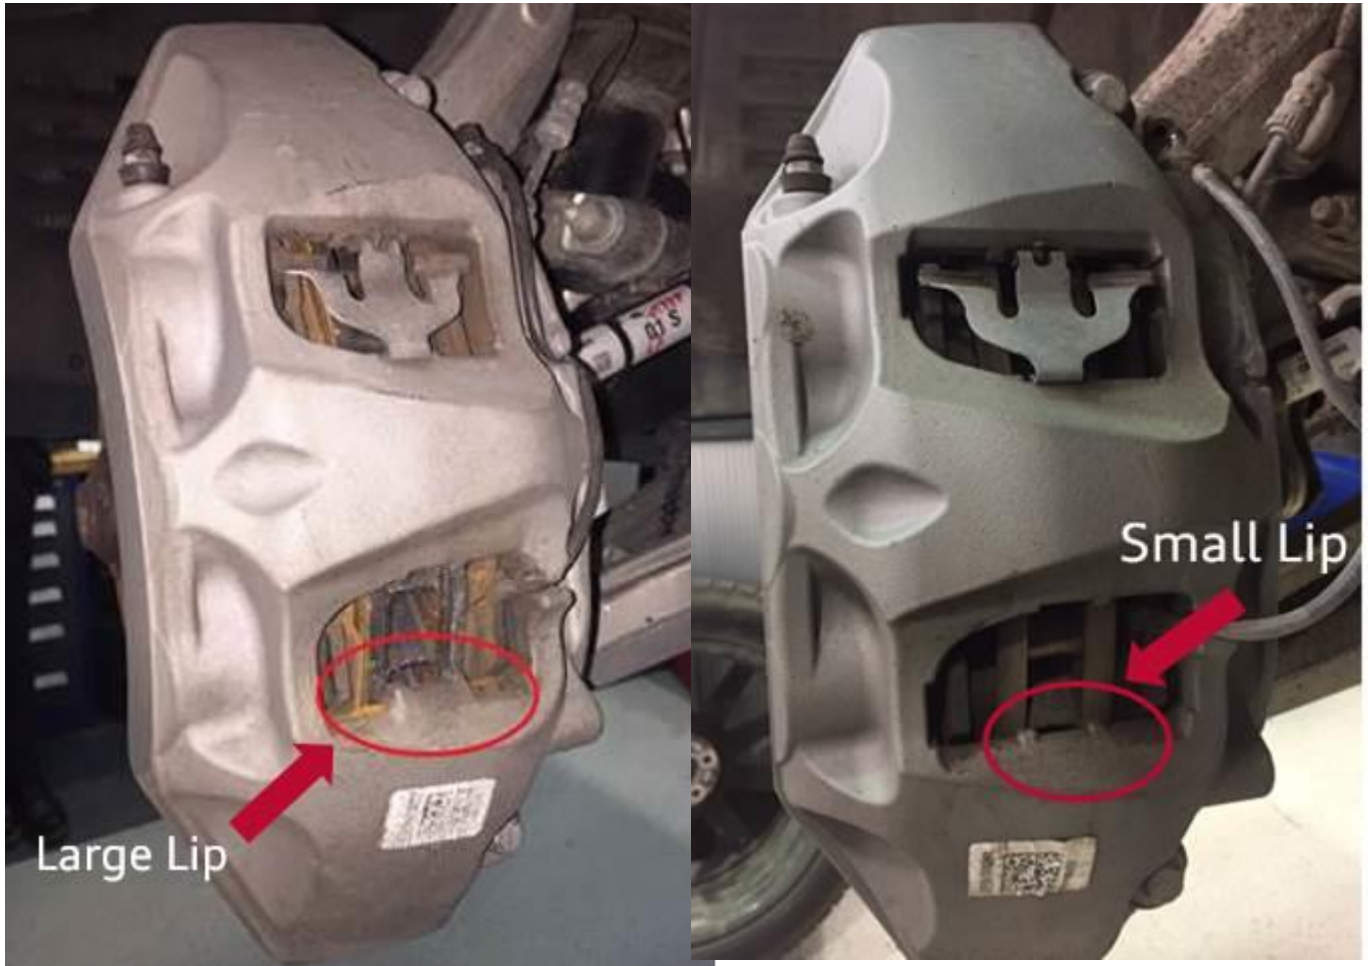

Figure 2. Caliper casting lip configurations.
A. Identify the caliper casting lip of the installed caliper in the vehicle. There are two possibilities for the lip; large and small (Figure 2).